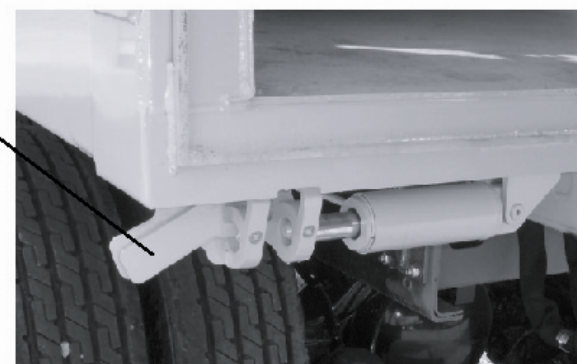

Figure 51. Tailgate Locked/Unlocked Flags
1. MOVE the tailgate air toggle switch to the UNLATCH position. HOLD the tailgate toggle switch in the UNLATCH position until both of the tailgate locked indicators FALL DOWN to indicate the tailgate is unlocked. See Figure 51.